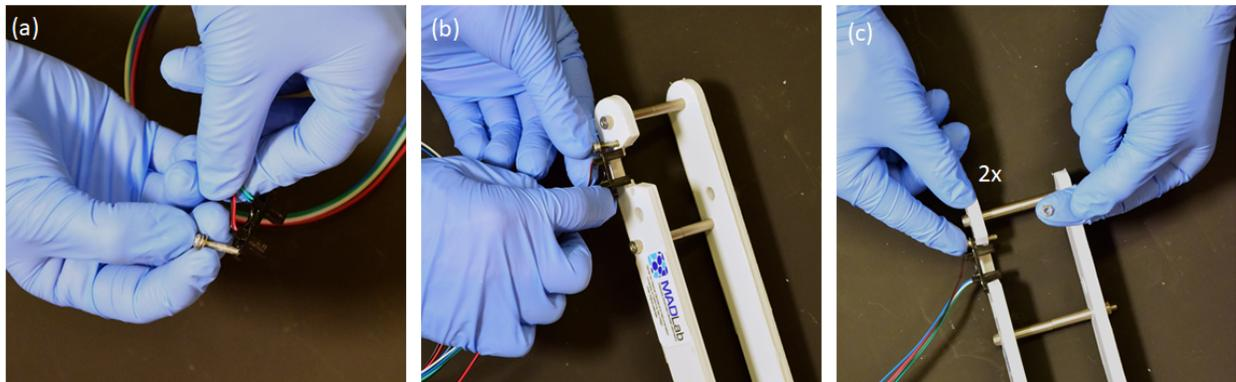

Figure 18
Step 38: Refer to Figure 18. Repeat steps 35-37 for both holes on the **optical limit switch [Part 20]**.